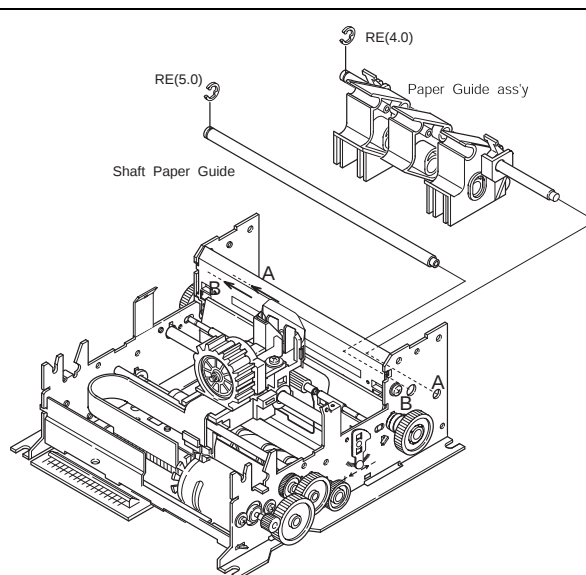

Figure 4-2. Separating paper Guide Block
2. Separate the E-Ring (RE5.0) to separate the Shaft Paper Guide from the Frame Assembly. (Figure4-2)
3. Separate the E-Ring(RE4.0) Remove the screws to separate the Paper Guide Assembly from the Frame Assembly. (Figure4-2)